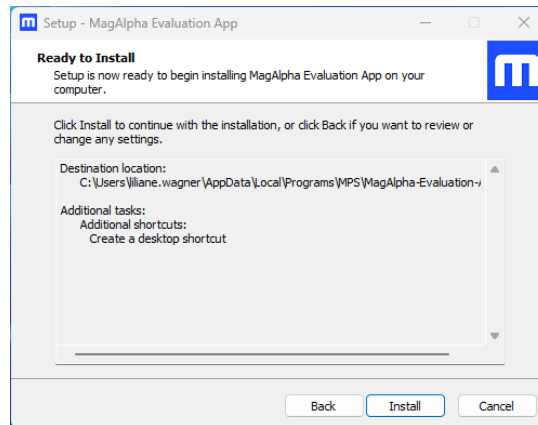

Figure 12: Installation Wizard (Installation Overview)
- Click “Install” (see Figure 12).